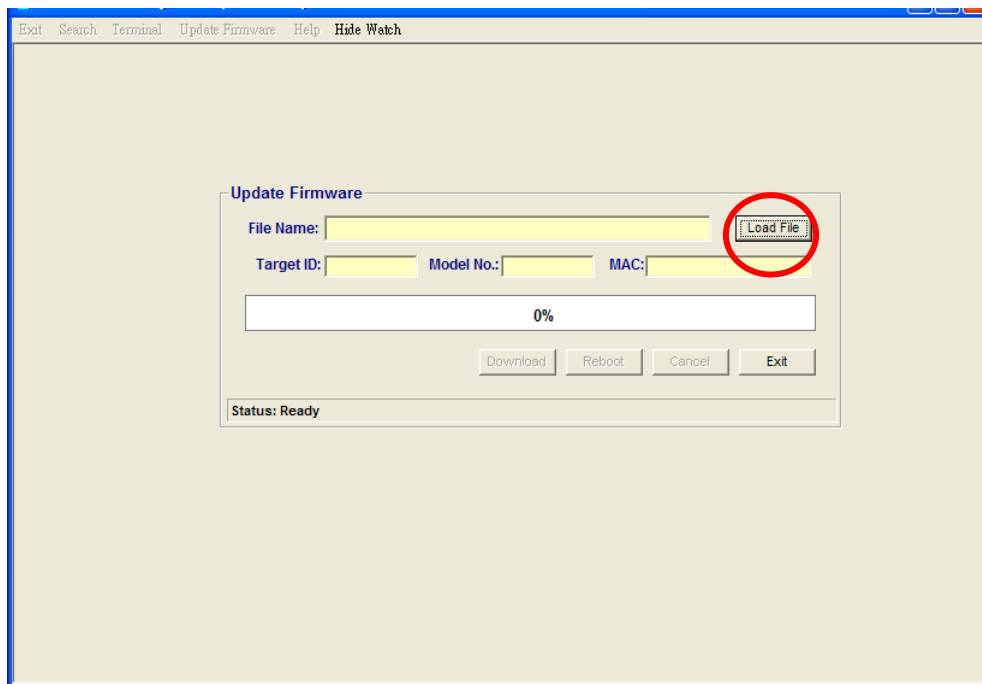

Figure -5
5. Click "Load File" button to load firmware file (see Figure -5)